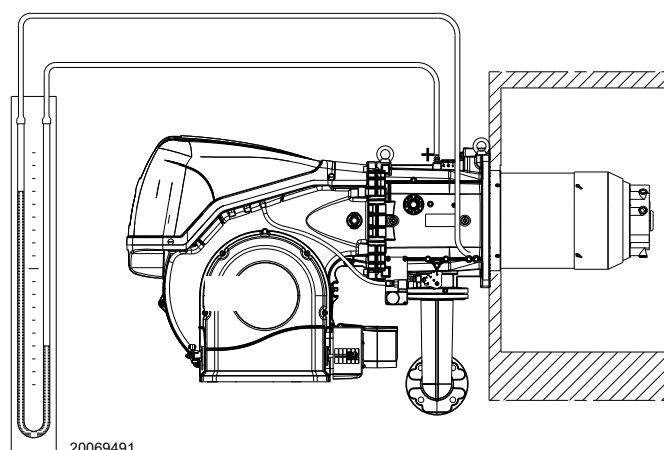

Fig. 28
- Fit a U-type pressure gauge or a differential pressure gauge (Fig. 28), with socket (+) on the gas pressure of the pipe coupling and (-) in the combustion chamber. The manometer readings are used to calculate MAX burner output using the Tab. K.